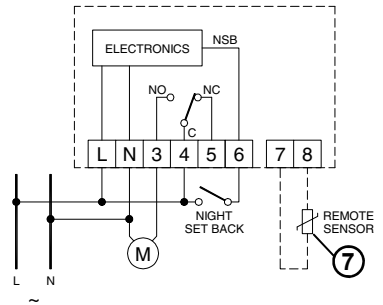
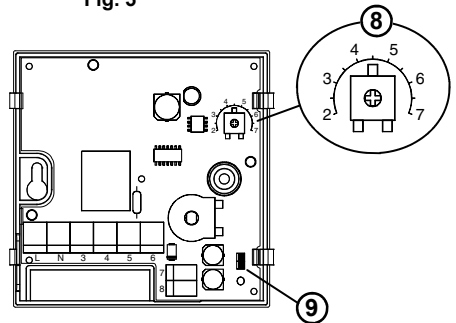

Fig. 5
Fig. 7
5. Make the wiring connections to the backplate as shown in Fig. 5 including any remote sensor connections to terminals 6 and 7.
Terminal NSB (6) Fig.5 allows to activate the "night set back" mode. The night set back temperature is adjustable in the range 2 °C to 7°C by means of the internal trimmer (8) Fig. 7. The thermostat is factory set to 4,5°C night set back.
When using the remote sensor option with the thermostat, connect the sensor as shown in Fig. 5 (7) and remove the jumper on the bottom right hand corner of the backplate - see (9) Fig. 7. Cased remote sensors must be connected in cable of at least 1.5mm² cross sectional area and not greater than 25m in length. Do not put mains cables and sensor cables next to one another.